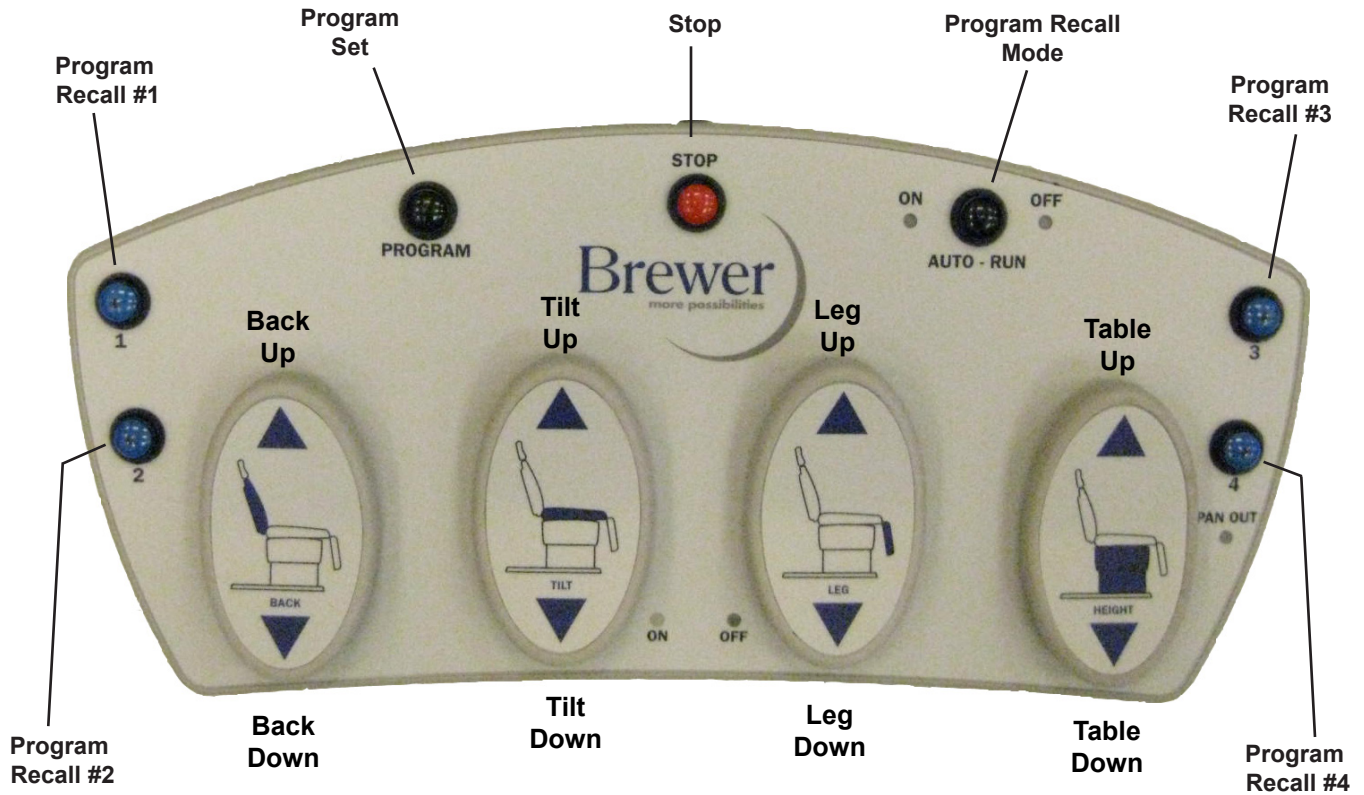

Figure 10
1. See figure 10 for the pedal and button identifications on the foot control
3. Refer to figure 10. The mode in which the pre-programmed positions are recalled can be set by the end user. The black “Program Recall Mode” button is used to set the recall motion to “Auto Run” or “Continuous Touch”. In the “Auto Run” mode, a single instantaneous touch of a blue Program Recall button will recall that position. In the “Continuous Touch” mode, the blue Program Recall button must be held down continuously until the table reaches the programmed position.
4. To set the program mode, depress the black “Program Recall Mode” button on the foot control for (5) five seconds, until (2) beeps are heard. A light
1. Using the foot control pedals, move the table to the desired position. (see figure 10) Tap the black “Program Set” button. The four blue “Program Recall” buttons will flash. Tap one of the blue buttons to store the position. The blue light will stay lit for that position and two beeps will sound.